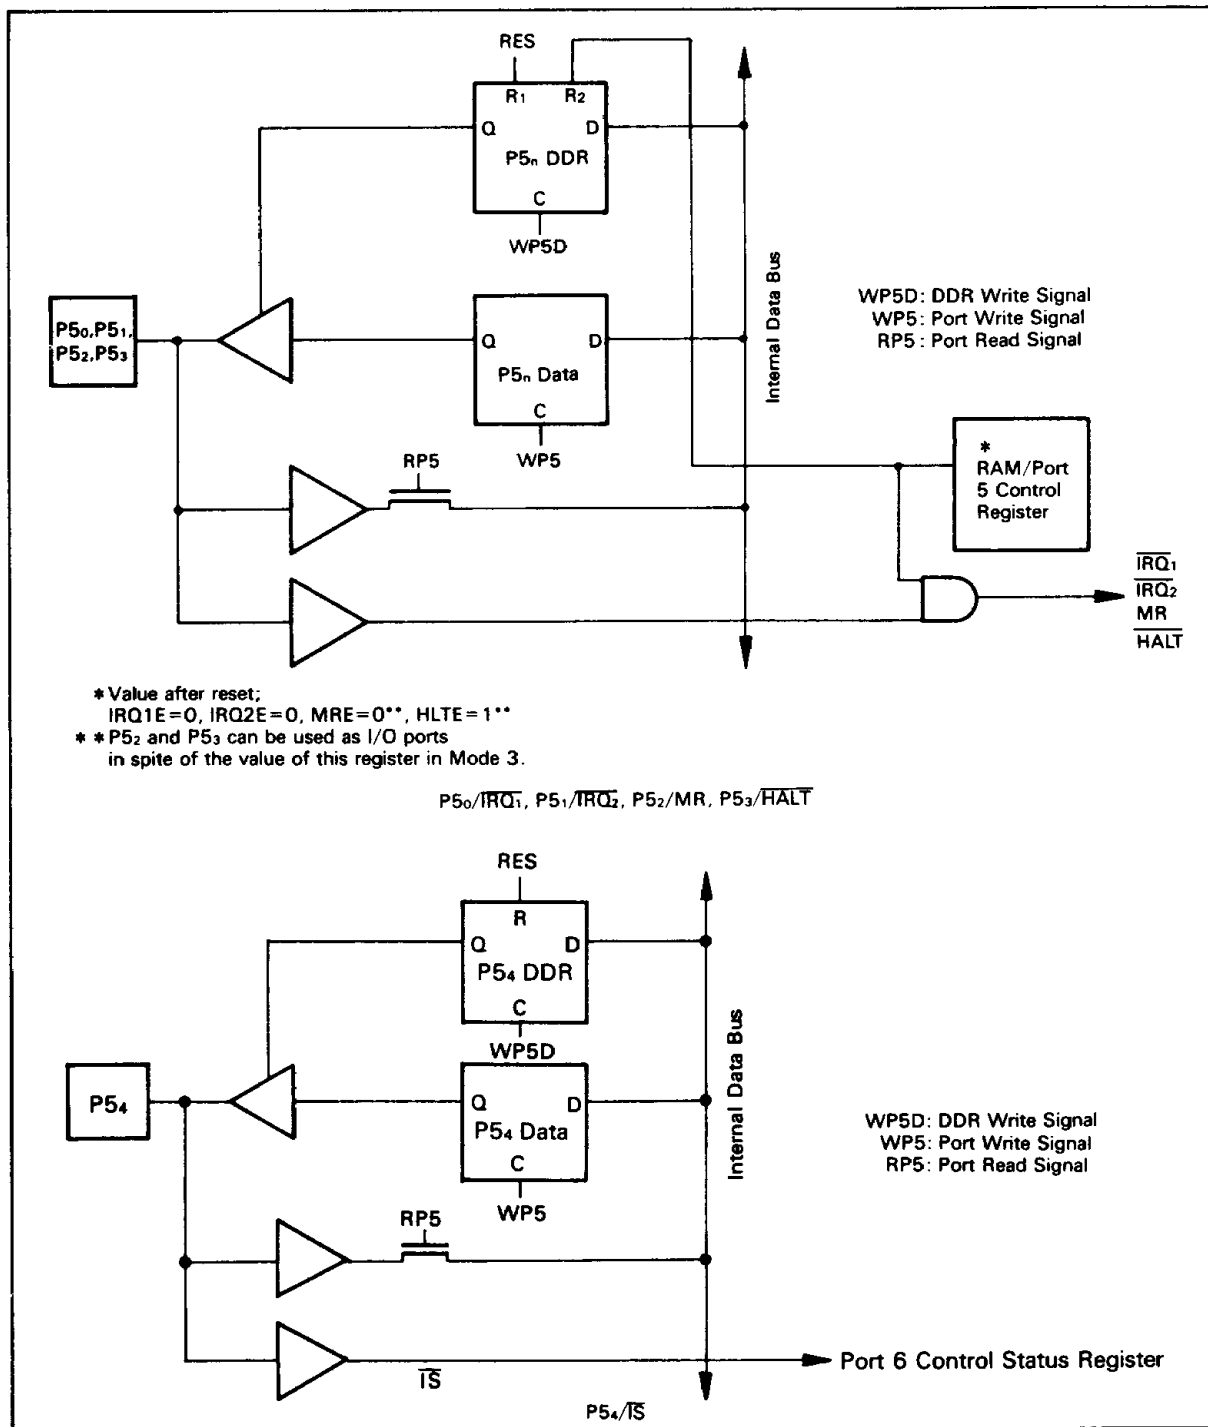
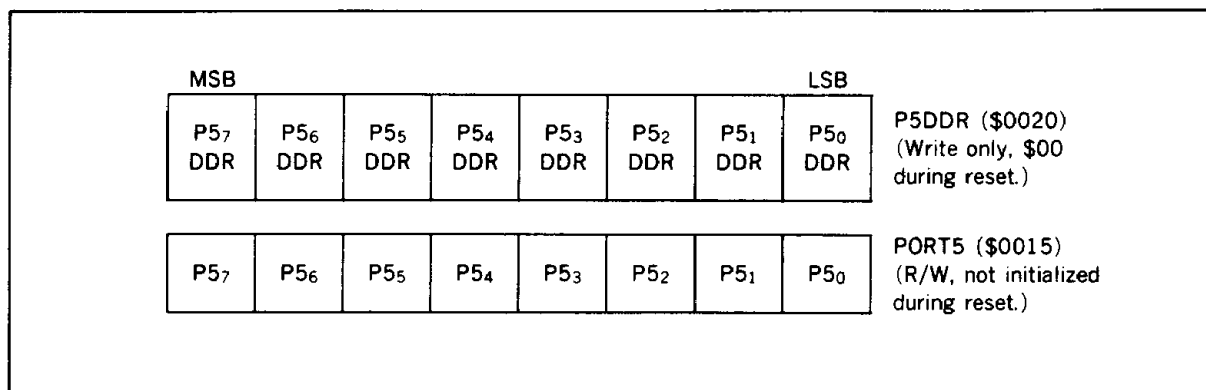

Figure 17. Port 5 Block Diagram
Figure 18. Port 5 Register and Data Direction Register
**Port 5** : Port 5 is an 8-bit I/O port (figure 17). Each bit of the DDR (\$0020) defines the data direction of the corresponding bit of port 5 (figure 18). Port 5 can drive one TTL load and 30 pF capacitance.